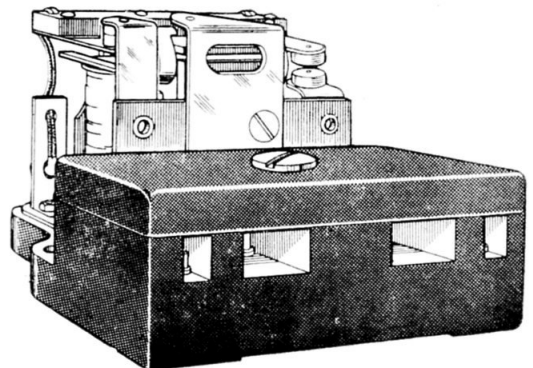

Fig. 1. Magnetic relay switch, Type Q3
2. The relay (*fig. 1*) incorporates an electro-magnet operating two pairs of contacts. One pair of contacts is normally closed and the other normally open, and energizing of